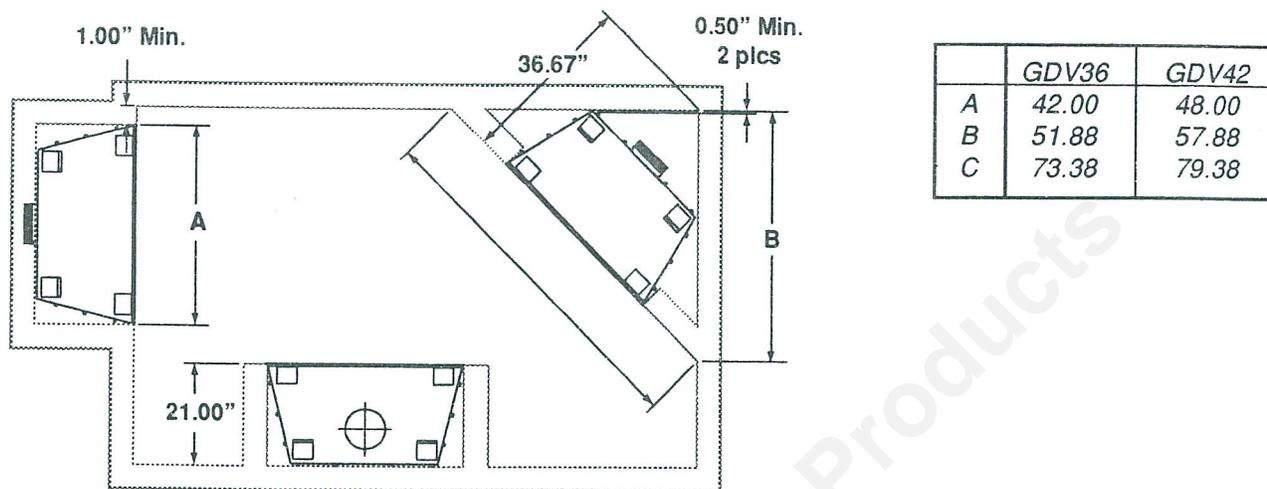

Figure 2: Fireplace Locations and Clearance Requirements
- This fireplace may be installed along a wall, across a corner, or use an exterior chase. Refer to Figure 2 for suggested locations.